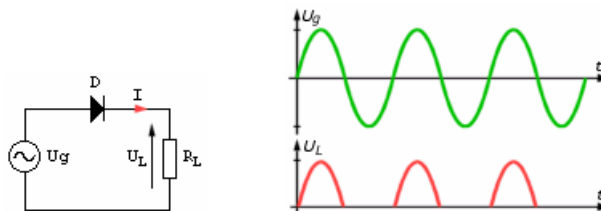
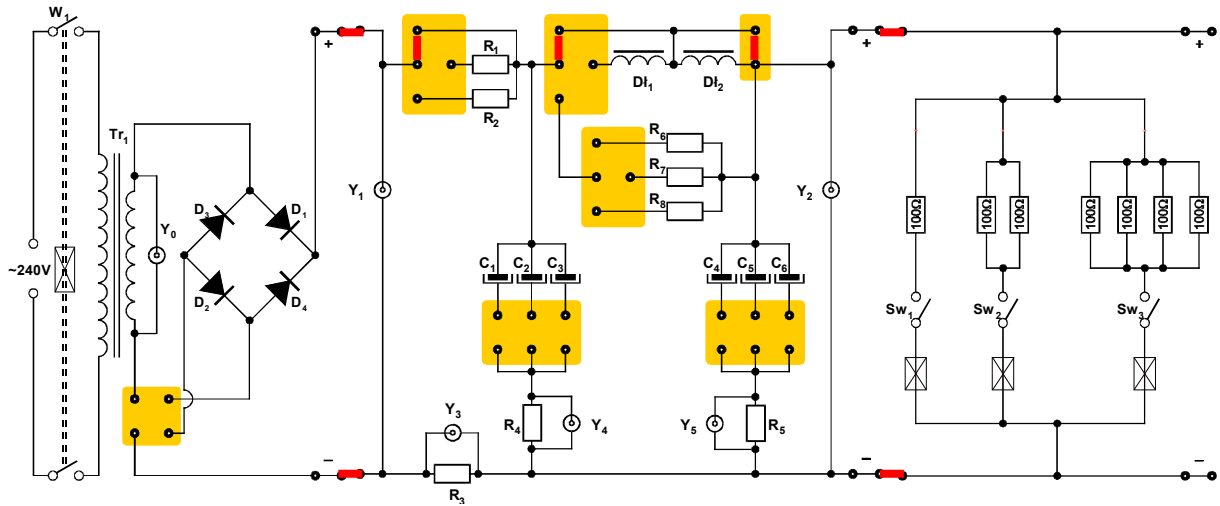

Fig.1. Schematic diagram of half-wave rectifier circuit and oscillograms of input  $U_g$  and output  $U_L$  voltage signal [4].
Fig. 9. Total schematic diagram of investigated setup to observe rectified voltage for the half or full-wave rectifier circuits.
1. Connect the circuit according to the diagram presented in Fig. 9. Use the jumper to select the half-wave mode of rectifier (see Fig. 6a). Check if all of  $Sw_1$ ,  $Sw_2$ ,  $Sw_3$  switches are set to 0 ( $R_L \rightarrow \infty$ , minimum load). Connect the two channels of oscilloscope to  $Y_0$  and  $Y_1$  BNC connectors on the front panel of experimental module. Set the input amplification of the both oscilloscope channels to 5V/DIV. **NOTICE: the real gain of input channel connected to  $Y_0$  is 10V/DIV because of safety lab regulations (the voltage on  $Y_0$  is two times lower then the real output voltage of secondary winding of a transformer). Ask the supervisor to approve the circuit configuration before you switch on the power.** Use the  $W_1$  switch to power on the circuit. Draw oscillograms of input signal of supply voltage (before rectifier) and related output signal of rectified voltage – see Fig. 1.